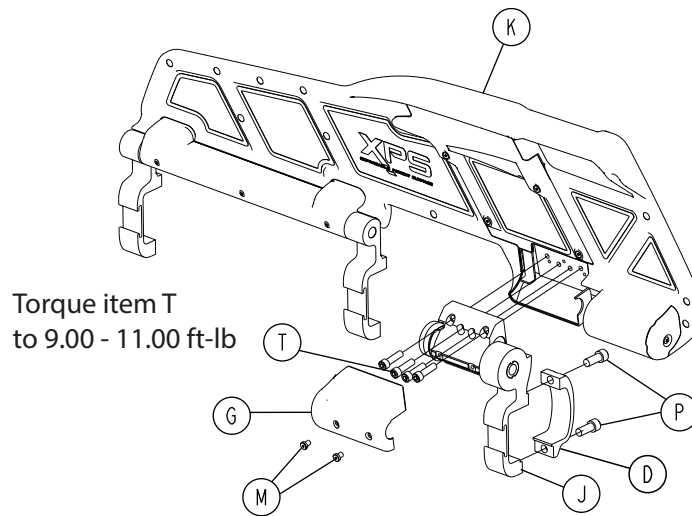

Figure 35 – Ratchet assembly components (XPS)
5. Using a 3/32" hex wrench, remove the two socket head cap screws (M) that secure the ratchet cover (G) to the ratchet assembly (J) (Figure 35). Remove and save the ratchet cover. Save the screws.
6. Using a 1/4" hex wrench, remove the socket head cap screws (P) that secure the siderail clamp (D) to the ratchet assembly at the foot end of the main assembly. Save the screws.
7. Using a 3/16" hex wrench, remove the four socket head cap screws (T) that secure the ratchet assembly to the overmold assembly (K). Remove and discard the ratchet assembly. Save the screws.